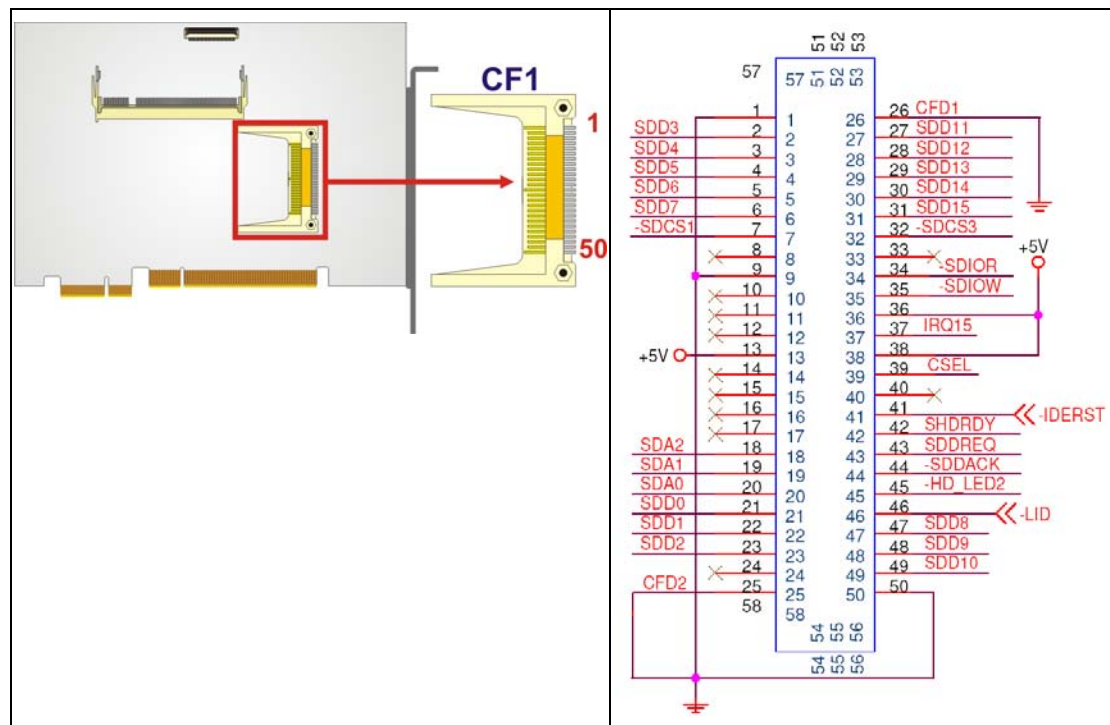

Figure 4-6: CF Card Socket Location
- CN Location:** See Figure 4-6